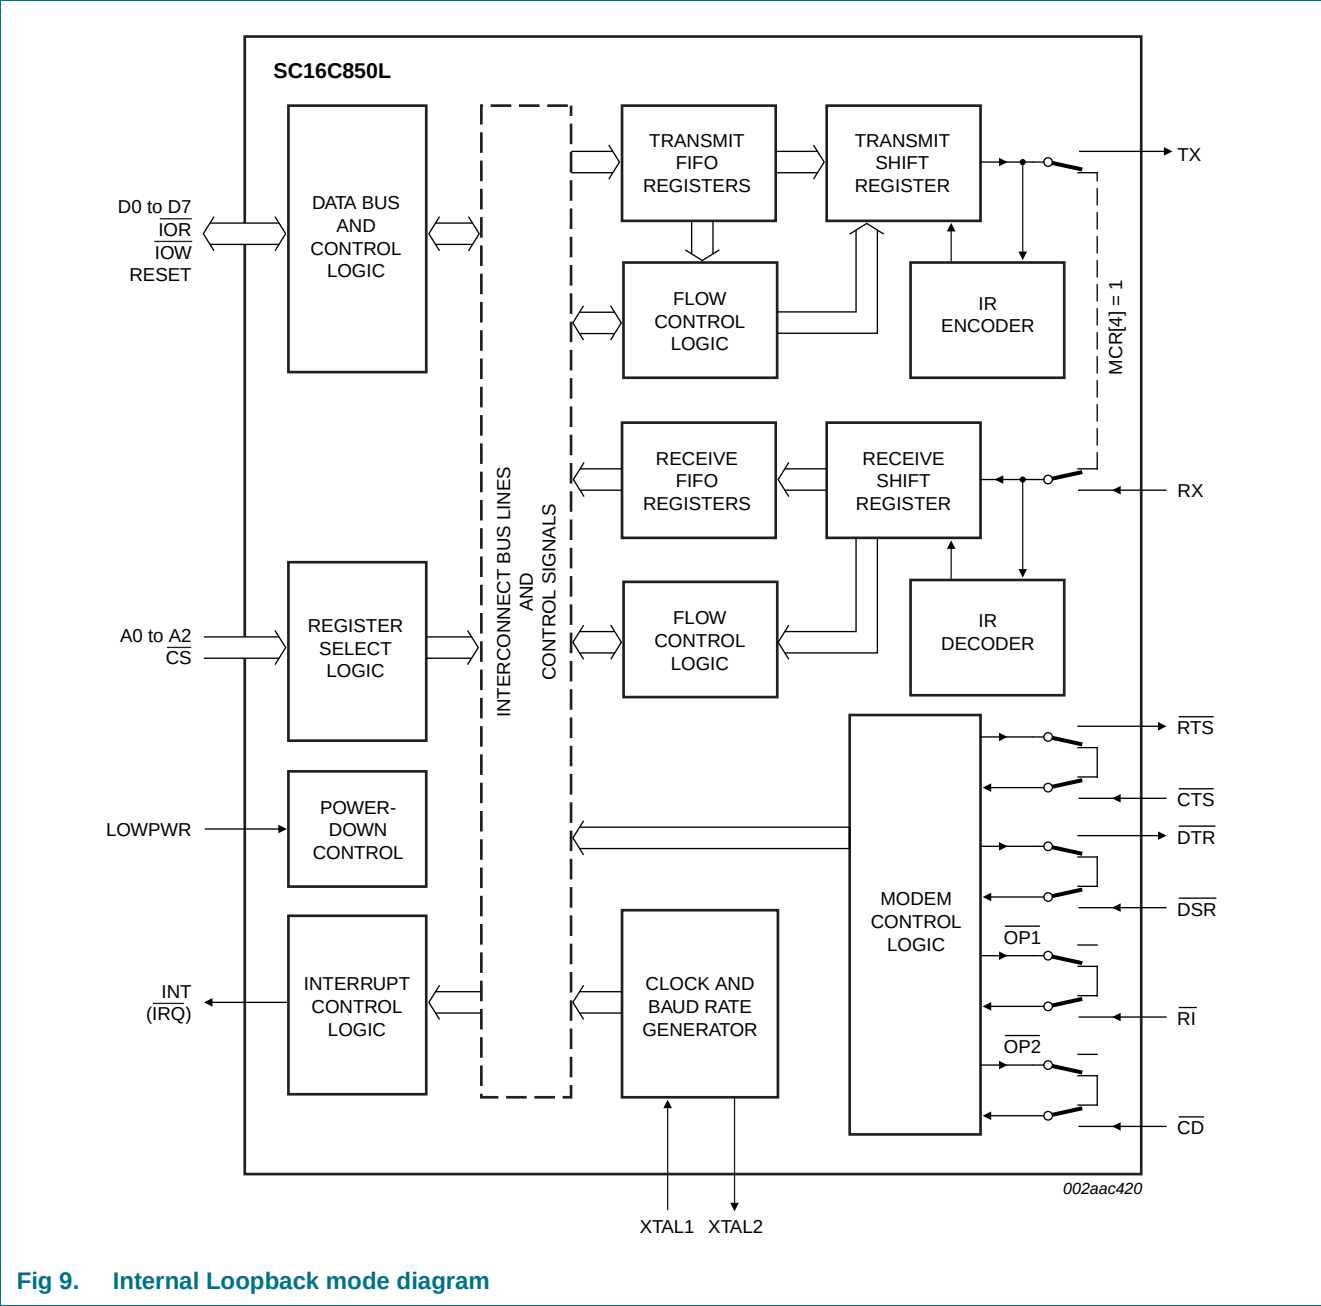

Fig 9. Internal Loopback mode diagram
The internal loopback capability allows on-board diagnostics. In the Loopback mode, the normal modem interface pins are disconnected and reconfigured for loopback internally (see Figure 9). $MCR[3:0]$ register bits are used for controlling loopback diagnostic testing. In the Loopback mode, the transmitter output (TX) and the receiver input (RX) are disconnected from their associated interface pins, and instead are connected together internally. The $\overline{CTS}$, $\overline{DSR}$, $\overline{CD}$, and $\overline{RI}$ are disconnected from their normal modem control input pins, and instead are connected internally to $\overline{RTS}$, $\overline{DTR}$, $MCR[3]$ ($\overline{OP2}$) and $MCR[2]$ ($\overline{OP1}$). Loopback test data is entered into the transmit holding register via the user data bus interface, $D[7:0]$. The transmit UART serializes the data and passes the serial data to the receive UART via the internal loopback connection. The receive UART converts the serial data back into parallel data that is then made available at the user data interface $D[7:0]$. The user optionally compares the received data to the initial transmitted data for verifying error-free operation of the UART TX/RX circuits.